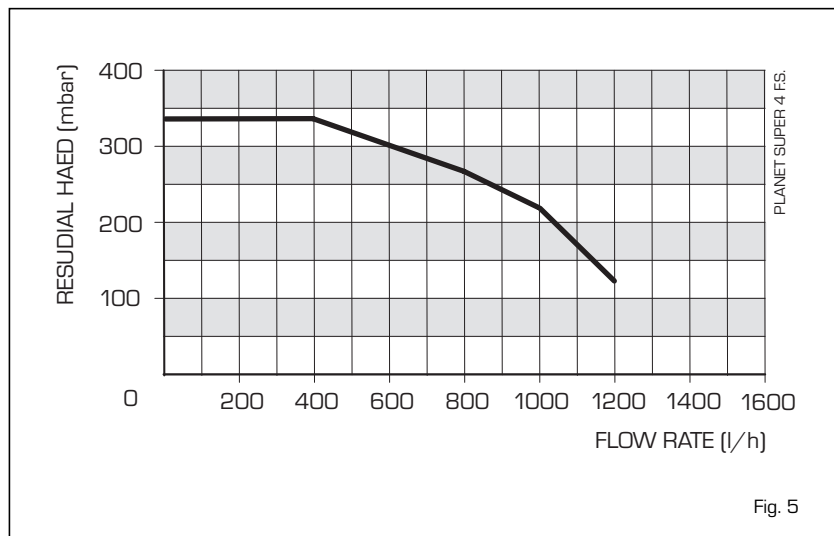

Fig. 5
- The available pump head is given in fig. 5.
- The appliance is equipped with an internal by-pass that operates with system heads (H) greater than 3.5 m. If thermostatic radiator valves are to be installed, at least one radiator should be without a thermostatic valve (usually the bathroom radiator).
The available head shown in fig. 5 is that in excess of the appliance hydraulic resistance, i.e. that available for the system at any given heating load up to the maximum output in C.H. mode. Never reduce the pump speed below maximum as this will reduce D.H.W. output. The pump speed is indicated on the side of the pump speed selector switch (if fitted).